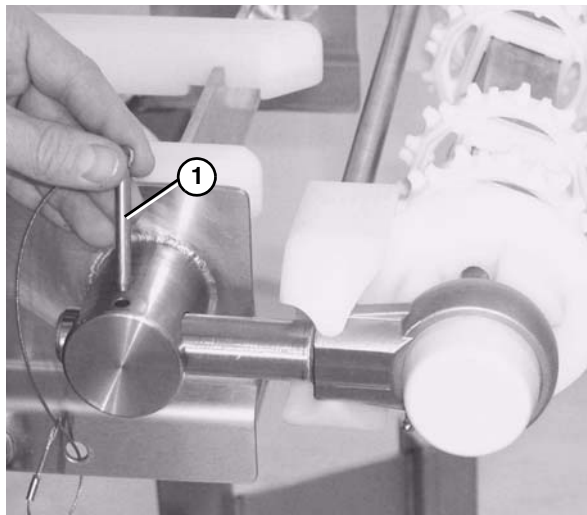

Figure 48
1. Remove the pull pins (**Figure 48, item 1**) on the tension end of the conveyor to release tension on the belt.